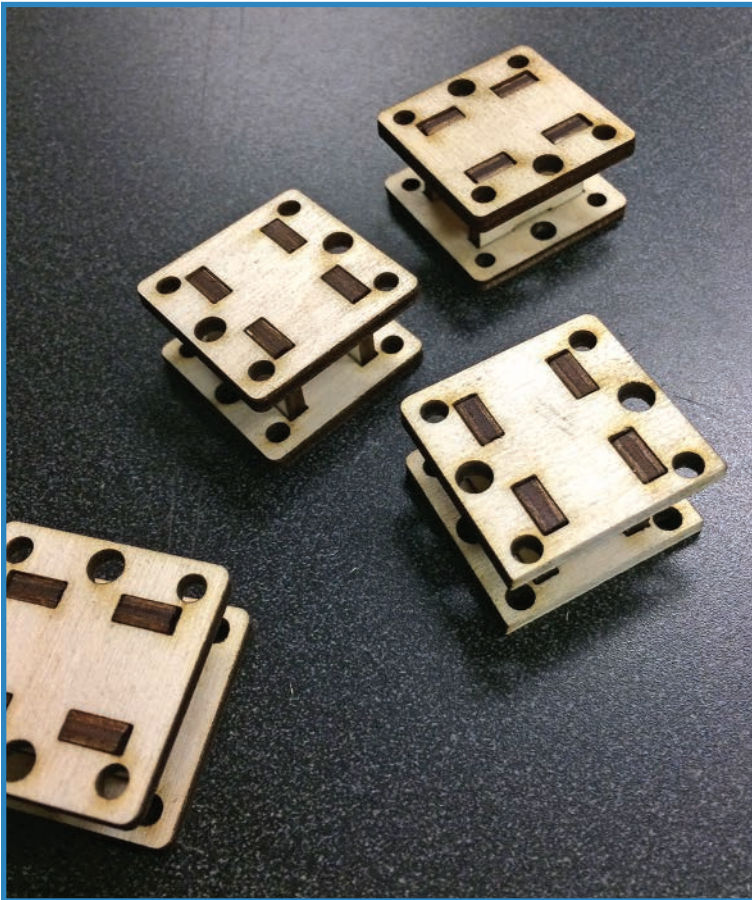

FIGURE 6.8 Cut out the motor mounts using a laser cutter.
1. Print or laser cut the motor mounts. In the parts list, I mentioned two different ways to make mounts for the motors. Because my 3D printer wasn't working when I worked on this step, I decided to laser cut mounts. You can see what I came up with in Figure 6.8. If you don't have access to a laser cutter, I'd suggest making similar plates using 1/8" plywood, cut and drilled to match the laser pattern. Finally, you can buy motor mounts online—just make sure they're compatible with a 1cm beam.